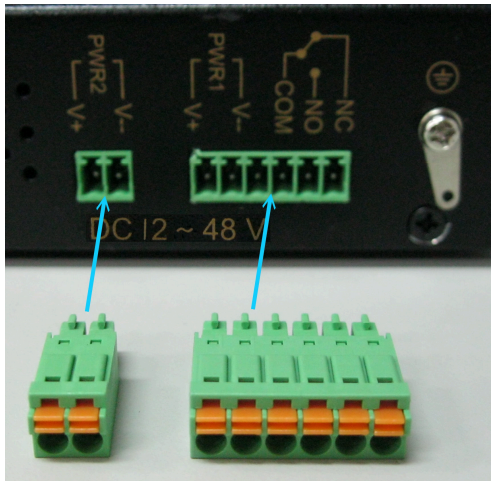

Figure 2.5.1
- ◆ Take out the “2pin / 6pin terminal block” from inside the accessory kit, and install to the NV-500 properly. (Figure 2.5.1)